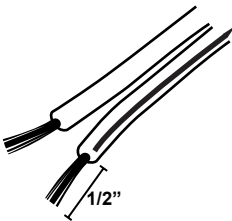

Fig.3
5. Connect the speaker wire coming out of the bar to the speaker wire coming out of the Pod. Note the polarity (the black-stripe wire from the Pod is negative –) See Fig. 3